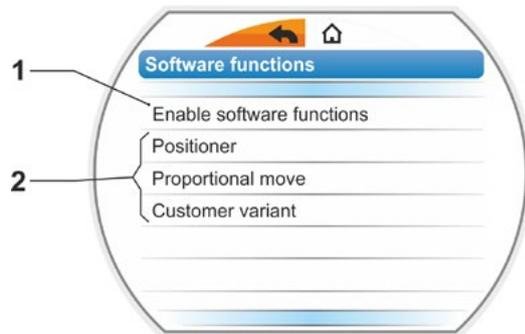

Fig. 1: Indication in the display: 'Software functions' menu
The 'Software function menu' with 'Enable software functions' menu item opens (fig. 1, item 1).
Should software functions and/or customer variants, which can be programmed, already be enabled, their names will be displayed, fig. 1, item 2.
6. Confirm 'Continue' (item 6).
The display changes to the 'Software functions' menu where the enabled function will be display accordingly (see above operation step 1. and fig. 1, item 2).